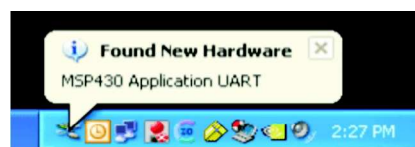

Figure 7. Windows XP Hardware Recognition for MSP430 Application UART
4. Windows recognizes another new hardware driver to be installed called MSP430 Application UART (see Figure 7).